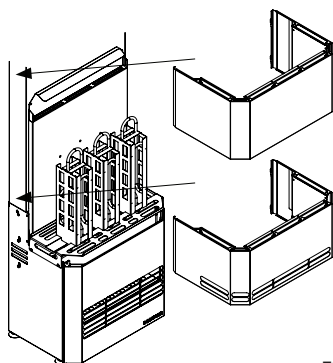

Figure 16
6. Install each stone basket section using the hooks in the opening behind the hot air intake (**Fig. 16 & 17**).